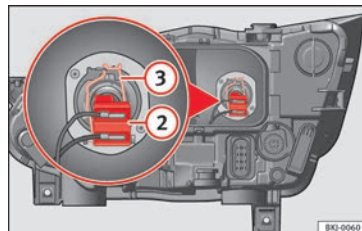

Fig. 112 In the engine compartment: dipped beam headlight.
- Remove the bulb connector » **Fig. 112 2**.
- Unclip the retainer spring »» Fig. 112 ③ pressing inwards to the right.